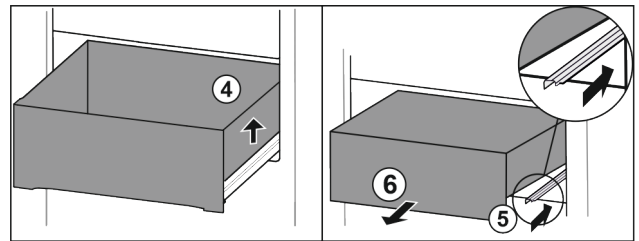

Fig. 84
- ▶ Lift drawer on the right. Fig. 84 (4)
- ▶ Slide in right rail. Fig. 84 (5)
- ▶ Remove drawer to the front. Fig. 84 (6)